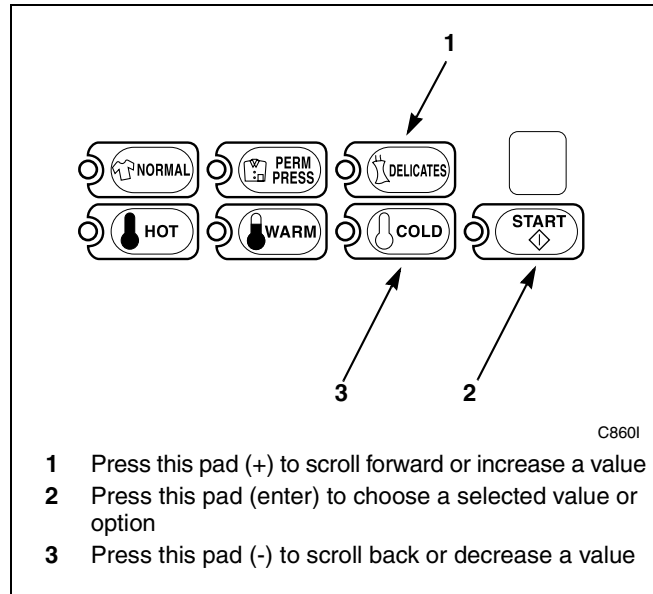

Figure 198
6. Press the DELICATES (+) or the COLD (-) keypad to increase or decrease the current number until correct. Refer to *Figure 198*.